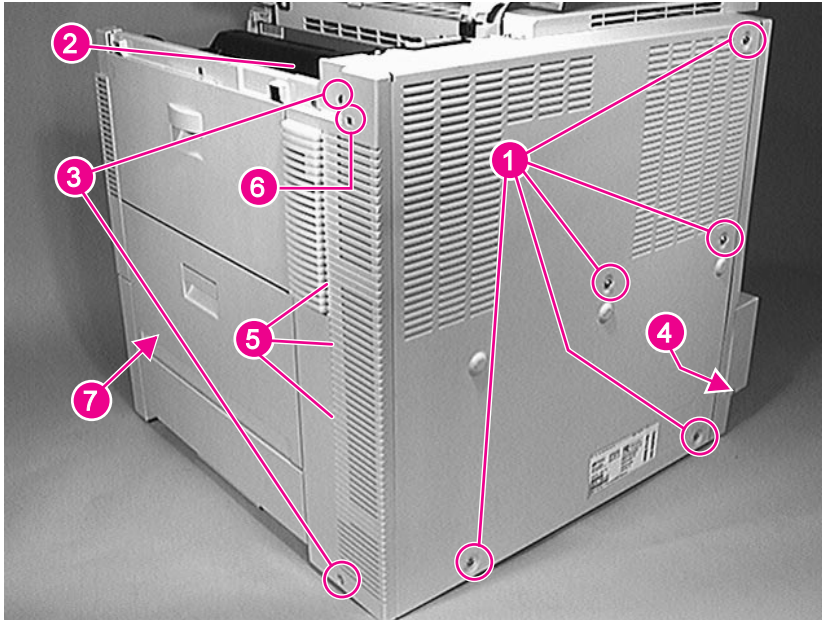

Figure 6-6 Back Cover
- 1 Remove 5 screws (figure 6-6, callout 1).
- 2 Open the top cover door, and remove 1 screw (figure 6-6, callout 2).
- 4 Remove 2 screws (figure 6-6, callout 3) from the plastic panel to the left of the metal back cover.
- 5 Carefully release the cover around the AC input connector (figure 6-6, callout 4) at the lower right of the back cover, and slide the right side of the cover slightly forward.
- 6 Carefully release the retaining tabs (figure 6-6, callout 5) on the plastic panel to the left of the metal back cover by gently pulling the cover to the left while moving both pieces away from the printer chassis.
- 1** Remove the back cover assembly (see figure 6-6).